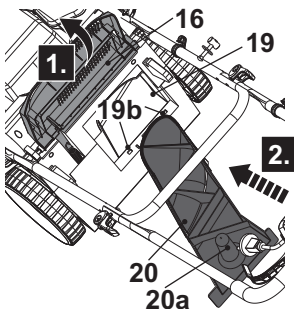

Fig. 14
**NOTE:** Mulching means cutting and returning the grass clippings to the lawn in one step: the grass clippings are cut very fine and then distributed evenly back onto the lawn. Under normal conditions, the mulched grass will biodegrade quickly to provide nutrients to the lawn. Do not attach the grass catcher (7) and the mulching insert (20) at the same time.
1. Open the deflector guard (16), hold the handle (20a) in position and insert the mulching insert (20) into the rear discharge chute (19) (Fig. 14). Ensure the spigots (20b) snap into the rear discharge chute slots (19b).